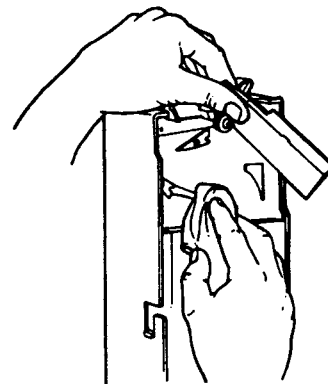

Figure 11: Cleaning the Acceptor Coin Ramp
- Swing the Acceptor lid diagonally upward and to the right (Figure 11). Hold the lid firmly so that it does not snap back down.